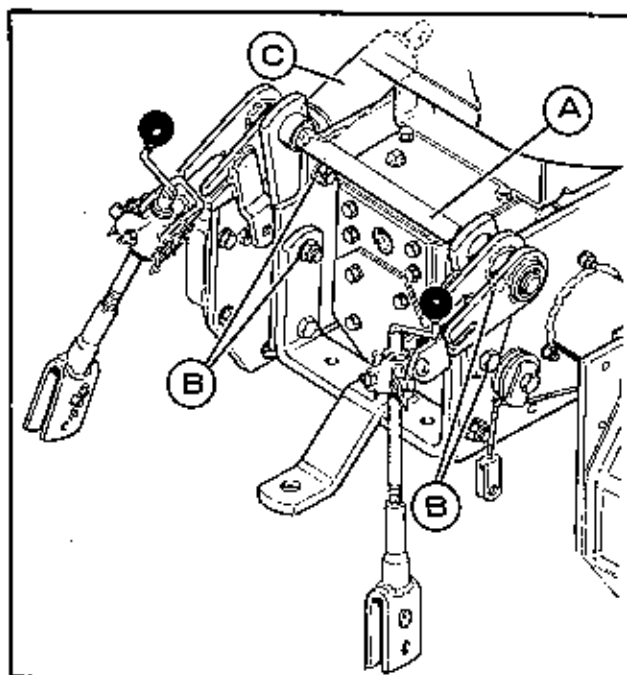

FIGURE 4
8. See figure 4. Install the lift arm and link assembly (A) in place on the tractor frame as shown and replace the four capscrews, lock washers, and nuts removed in step 2 at (B). To insure there will be adequate clearance for the turnbuckle link assembly, push forward on shaft (A) while tightening the nuts. The nuts should be torqued to 75 foot pounds.
9. See figure 4. Attach the rod end of the hydraulic cylinder (C) to the left lift arm using the pin and spring clip removed in step 1.